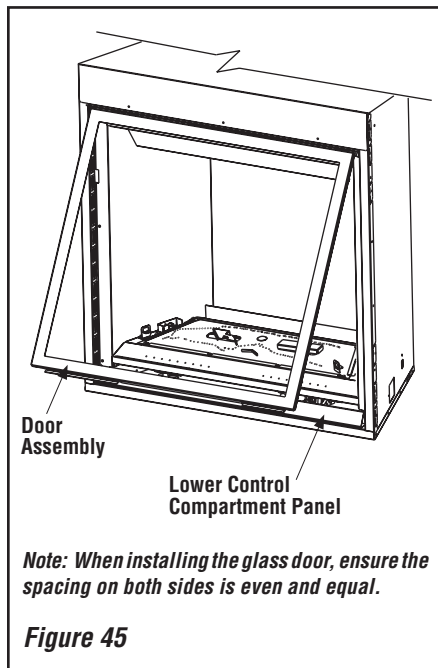

Figure 45
1. To access the glass door securing latches, first open the lower control compartment door (*Figure 45*) by lifting and pulling the bottom panel forward.
5. Inspect the gasket for defects. Insure it is properly located. Make sure the bead is not rolled up into the channel at the top of the door, but remains flat against the top of the glass (see *Figure 45*).
6. Position the door in front of the firebox opening with the bottom of the door held away from the fireplace (*Figure 45*). Hook the top flange of the door frame over the top of the firebox frame.